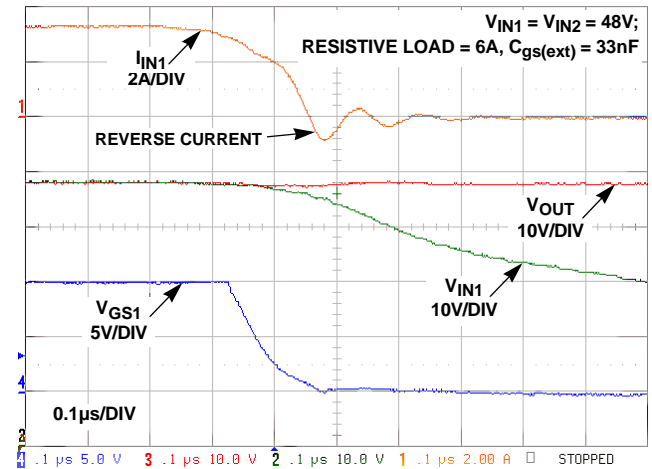

FIGURE 23. FAST SPEED TURN-OFF (MOSFET WITH
tDELAY(HS) is the High Speed Comparator internal worst-case time delay. The setup in Figure 18 can be used to perform the Input dead-short test; a pulse generator is connected between Gate-Source of QSHORT1 (use pulse mode single shot, set the frequency to <10Hz and pulse width of approximately 10ms, tRISE = 1µs). Follow steps 1 through 5 in the two feed parallel operation section. Make sure that both feeds operate in parallel current sharing mode. Proceed with the short test by applying the single pulse to the gate of QSHORT1. Once turned on, QSHORT1 shorts VIN1 causing it to fall quickly (in less than 10µs). Figures 23, 24 and 25 show the results for different combinations of CGS1 and load current. Make sure to connect the VIN1 shorting-MOSFET terminals as close as possible to the VIN-GND (J4 to J6) terminals on the EVAL board to minimize lead impedance and reduce parasitic ringing.